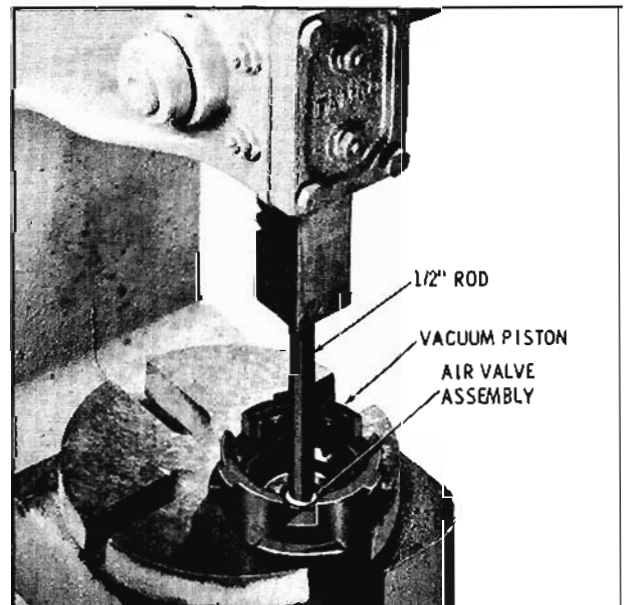

Fig. 11-35 Removing Air Valve
8. Place the vacuum piston, tube down, in a press. Using a rod not exceeding 1/2" in diameter, press the air valve assembly from the vacuum piston. (Fig. 11-35)